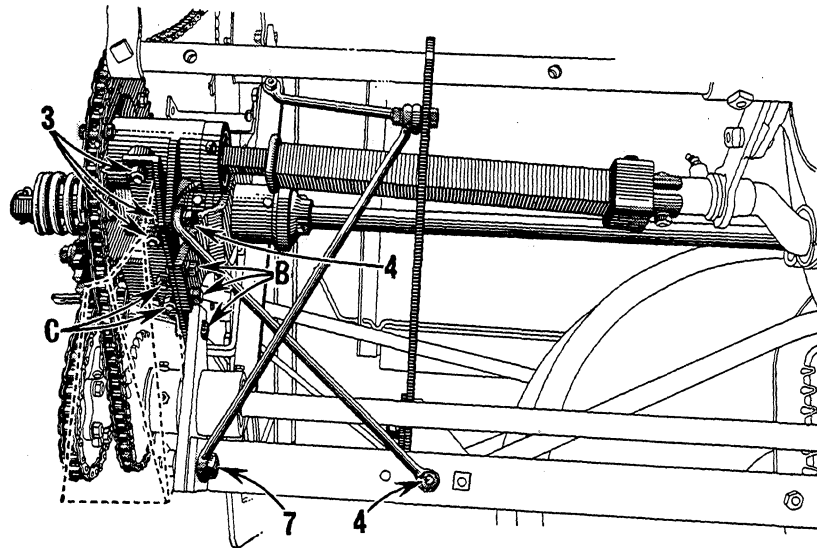

Figure 74
72. Attach rear binder drive support angle to rear power shaft support and rear pitman box support at "B," Figure 74. Bolt pitman drive chain tightener bracket at "C," Figure 74.
3. (Figure 74) Bolt binder driven sprocket assembly loosely to rear binder drive support angle.
4. (Figure 74) Bolt round brace to rear binder drive bearing and to right-hand cross sill.
10. Bolt pitman drive chain shield in place at "3," "7," and "B," Figure 74. Shield is shown in dotted lines.